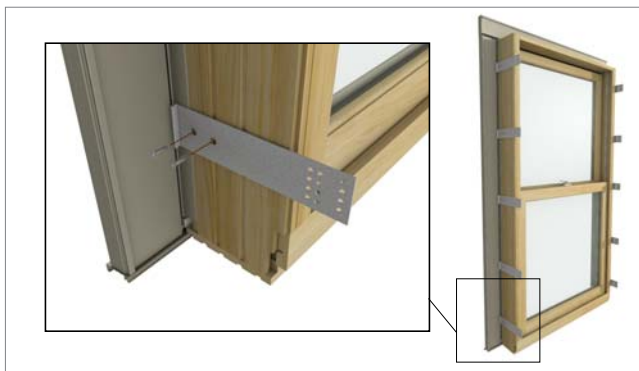

Figure 5
2. If you are installing a window with installation brackets or structural masonry clips, fasten to the window now (if not installed at the factory). Follow the instructions provided with the brackets. See figure 5.